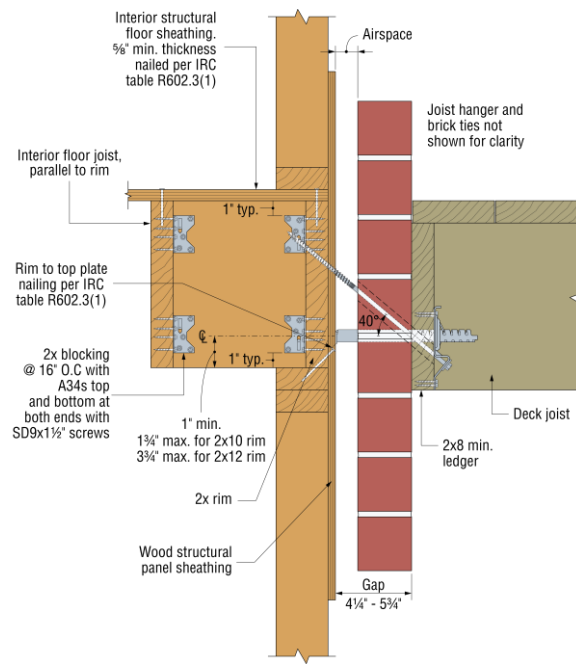

Figure 4a
Table 4 provides the maximum on-center spacing for the BVLZ when the interior structural framing meets IRC requirements, the rim is reinforced with A34 angles as shown in Figures 4a and 4b, and wood structural panel (WSP) wall sheathing is present on the exterior of the wall. See Figures 4a and 4b below the table for additional information on IRC requirements and reinforcing of the rim. Maximum on-center spacing of the BVLZ is listed. Decrease the on-center spacing when necessary to accommodate deck joist spacing.
1. See Figures 4a and 4b for minimum framing, IRC fastening, and rim board reinforcing requirements.